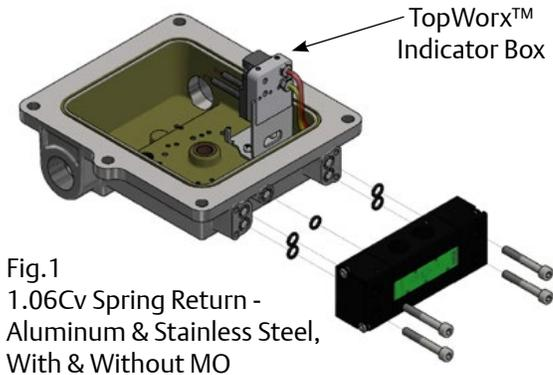

Fig.1
All valves are configured for internal pilot pressure supply. Pilot pressure supply is from Pilot Valve mounted inside the TopWorx™ Indicator Box as shown in Figure 1 (a).
- When assembling this product to a pilot to ATEX 2014/34/EU, take the least favorable category, maximum working pressure and temperature into account. Compliance with the Essential Health and Safety Requirements has been assured by compliance with the European Standards EN 13463-1. The mounting position for the pilots as shown in figure 1 (a).
- **ASSEMBLY OF 1.06Cv VERSIONS:** 1.06Cv series valves are directly mounted on Indicator Box. Spring Return valves are mounted with the help of 3 screws and Dual Pilot valves are mounted with the help of 4 screws as shown in figure 1 (a) & 1 (b). Mounting screws are not provided with valve. TopWorx Indicator Box shown in the pictures are only for illustration purpose.